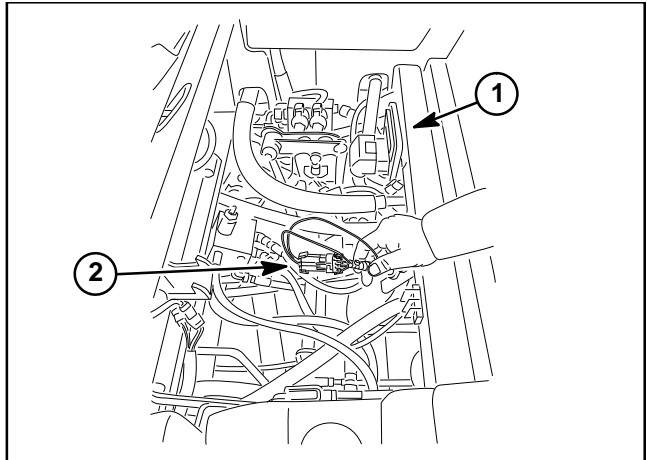

Figure 13
2. Tilt and support operator seat to access TEC controller. Locate wire harness and connectors near TEC controller. Carefully unplug loopback connector from harness connector (Fig. 13).